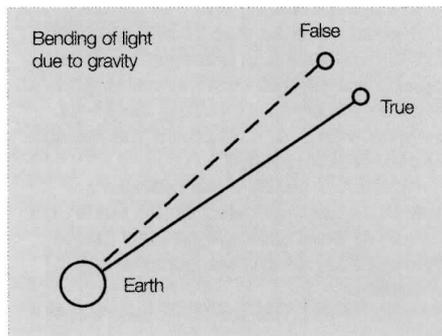

Fig 1
us older collectors remember the old story of the father and son at a pond's edge, the father dropping a pebble into the water. "There my boy - that's how wireless waves travel" referring to the rings in the water. But the boy looks back at his father and says, "but dad where is the ether?" Looking back at these old ideas and of what we know today, it is a great wonder. Or is it? I think there is still a mystery here about the so-called ether. It seems to be something about the way Electromagnetic Radiation (ER) travels. Scientists have speculated about a link between gravity and ER. For instance they speak of light being bent when passing near to large bodies in space. (fig 1)